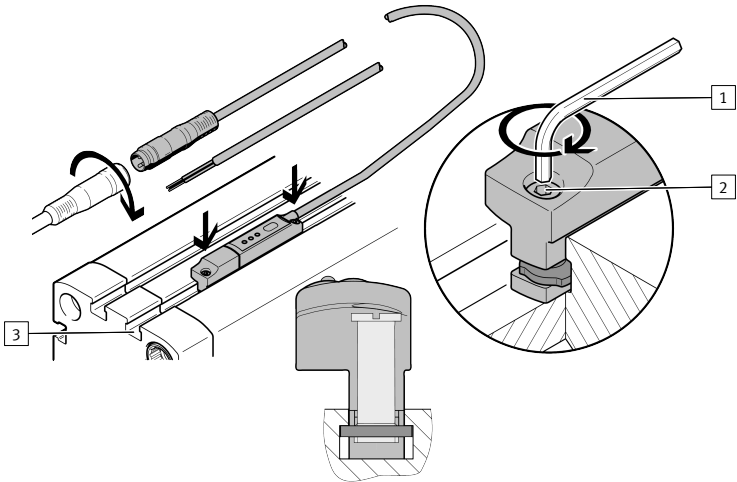

Fig. 3: Mechanical installation
- Unscrew the retaining screws → Fig. 3.